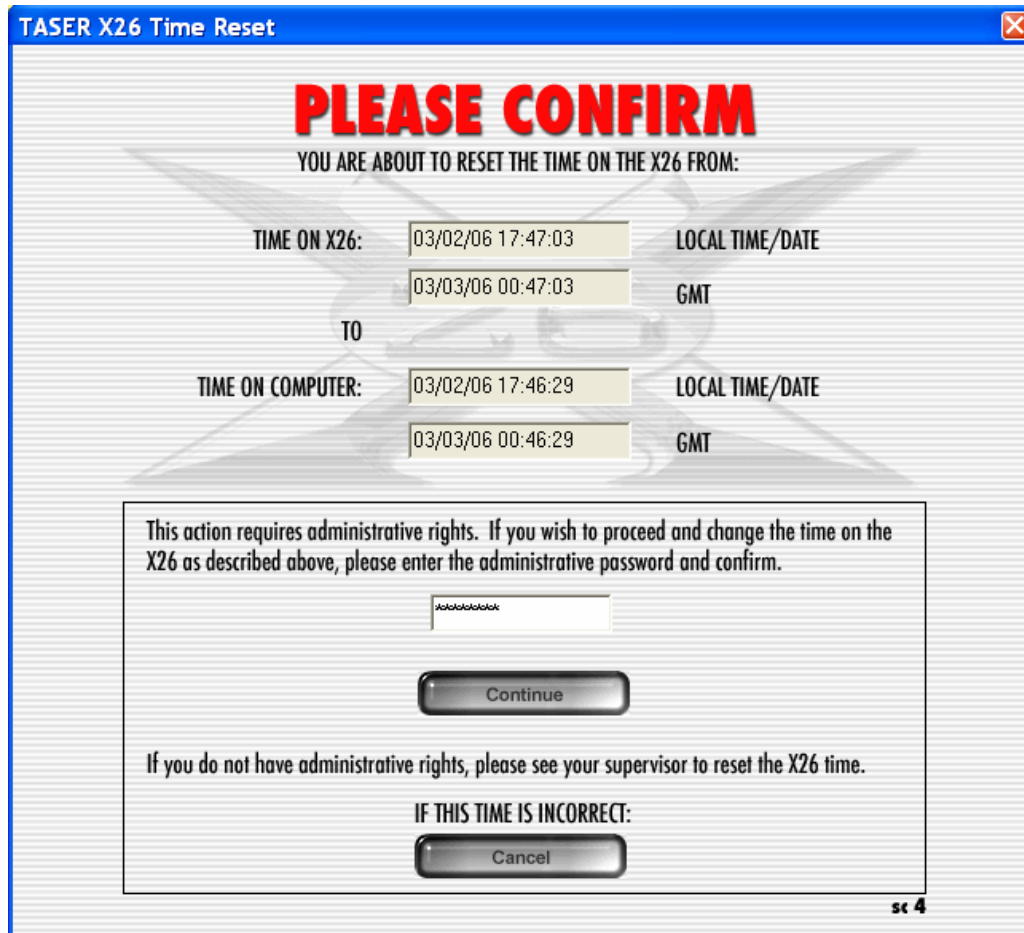

Figure 12
- c. A **PLEASE CONFIRM** dialog box (Figure 12) will appear to verify that you want to change the time in the X26. Changing the time requires the (case-sensitive) password located on the CD case. You also can obtain the password by contacting TASER International Technical Support at 1.800.978.2737.